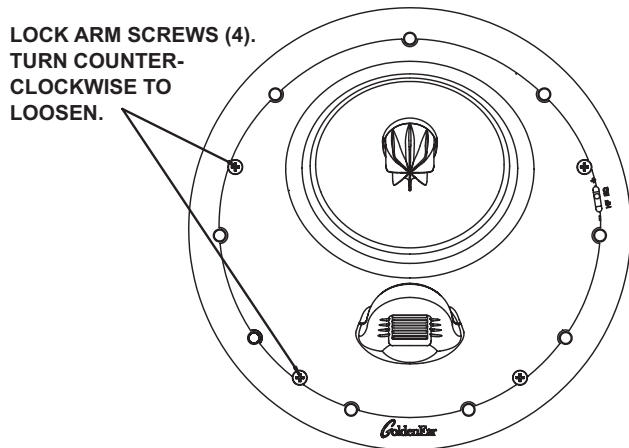

Figure 4
7. Loosen the four rotating lock arms on the speaker by turning the arm screws on the front of the speaker counterclockwise $\frac{1}{2}$ to 1 turn, just enough to allow the lock arm to move freely (Figure 4).